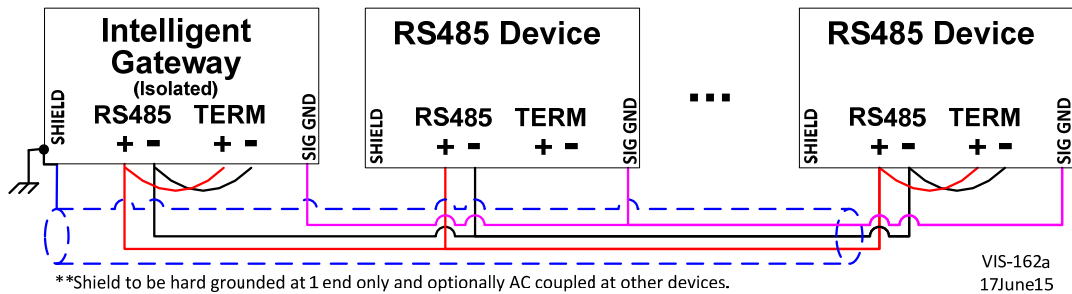

Figure 3-26. Wiring Example—RS-485 Interface to the SmartCore CPU A5200 Board
- **RS-485.** Refer to Figure 3-26 for an RS-485 wiring example. The data lines (485+ and 485-) and signal ground (SIG GND) must be properly connected as shown. In addition, the shield (SHLD) should be connected in at least one location. The unit at each end of the network should be terminated with a resistor.